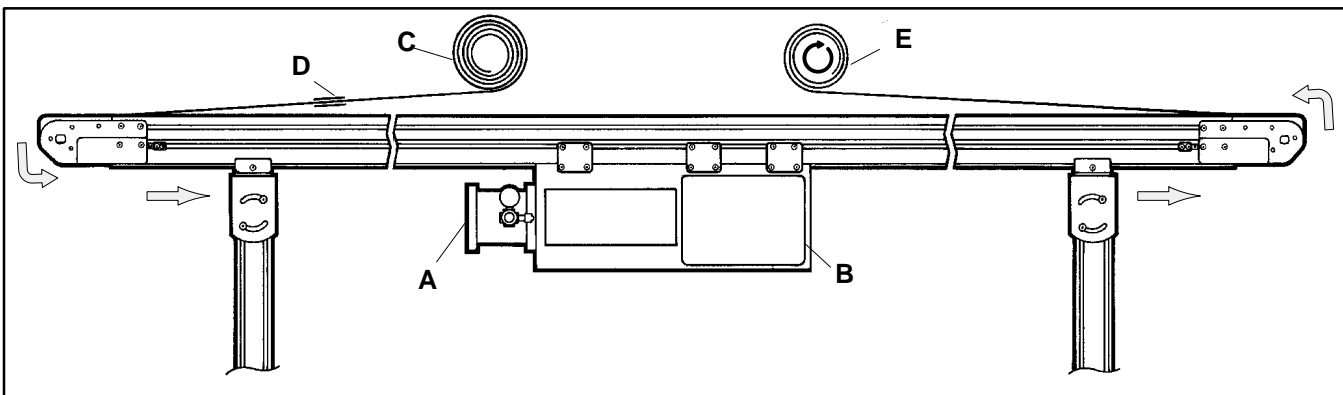
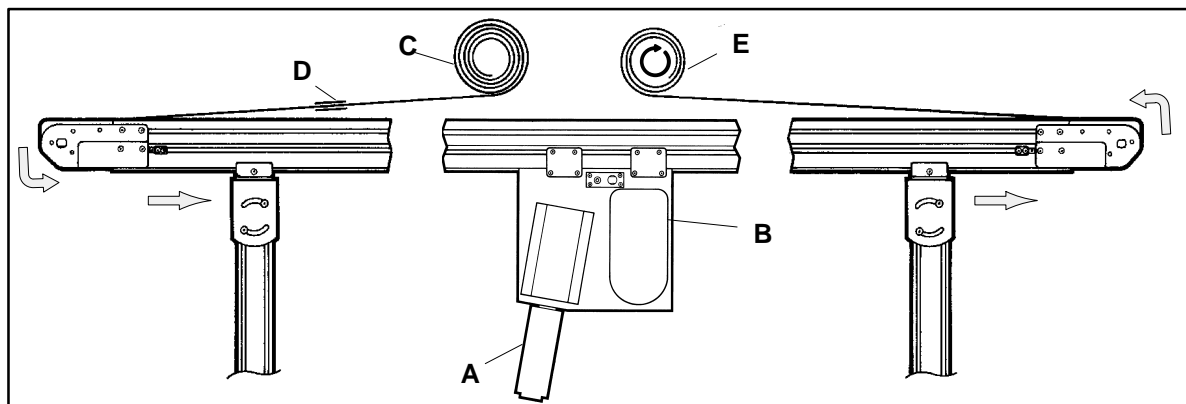
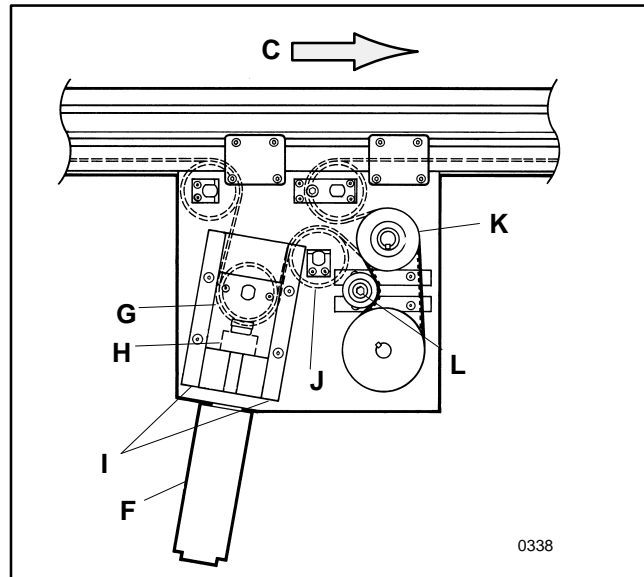

Figure 34
Figure 35
Figure 37
2. Remove air pressure from the take-up air cylinder (A of Figures 34 & 35).
4. Open the horizontal Poly-V® belt drive cover (B of Figure 34) or the vertical timing belt drive cover (B of Figure 35) and release drive belt tension. Then, remove the drive belt so the drive pulleys rotate freely.
6. Tape (D) one end of the new belt (C) to one end of the old belt (E).
5. Open the horizontal Poly-V[®] belt drive cover (B of Figure 34) and release drive belt tension. Then, remove the drive belt so the drive pulleys rotate freely.
11. Form a large loop with the conveyor belt inside the module and re-install the lower drive pulley (N), drive pulley shaft and the drive bearing assembly. Make sure all three elements are correctly positioned before tightly securing the bearing hardware.
12. On the appropriate side of the belt loop, replace the fixed position idler pulley (M) and pulley shaft. Re-secure the shaft by re-attaching the shaft retaining clip.
13. Replace both take-up pulleys (G) and the inner and outer take-up plate assemblies. Then, replace the two take-up guides (I). Again, make sure all elements are correctly aligned before tightly securing the take-up bar attaching hardware.
14. After the conveyor belt has been properly replaced and re-routed through the center drive module, replace the horizontal Poly-V[®] belt drive, restore drive belt tension and replace the drive belt cover (B of Figure 34).
1. Open the vertical timing belt drive cover (B of Figure 35) and release timing belt tension (L of Figure 37).
3. Remove the take-up pulley (G).
5. Loosen the take-up bar (H) from the bearing on one side and remove the take-up guides (I) from that same side.
7. Next, remove the center idler pulley (J) by removing the end plate from both ends of the pulley shaft and push the shaft out from the drive. Then, remove the idler pulley.
8. With the pulleys and shafts (G and J) removed, the splice fingers of the correctly oriented replacement conveyor belt can be brought into the center drive module and routed around the three remaining pulleys as shown in Figure 37.
10. Replace the take-up guides (I). Then, replace, align and secure the take-up bar (H).
11. On the appropriate side of the belt loop, replace the take-up pulley (G) and the take-up bearing locking collars, on both ends of the take-up pulley. Again, make sure all elements are correctly aligned before tightly securing the bearing locking collars.
12. After the conveyor belt has been properly replaced and re-routed through the center drive module, replace the timing belt, restore timing belt tension and replace the drive belt cover (B of Figure 35).